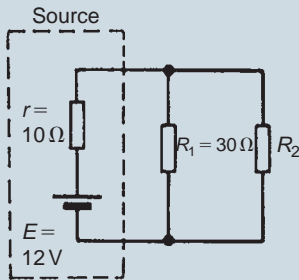

Figure 15.94
10. For the circuit shown in Fig. 15.94, maximum power transfer from the source is required. For this to be so, which of the following statements is true?